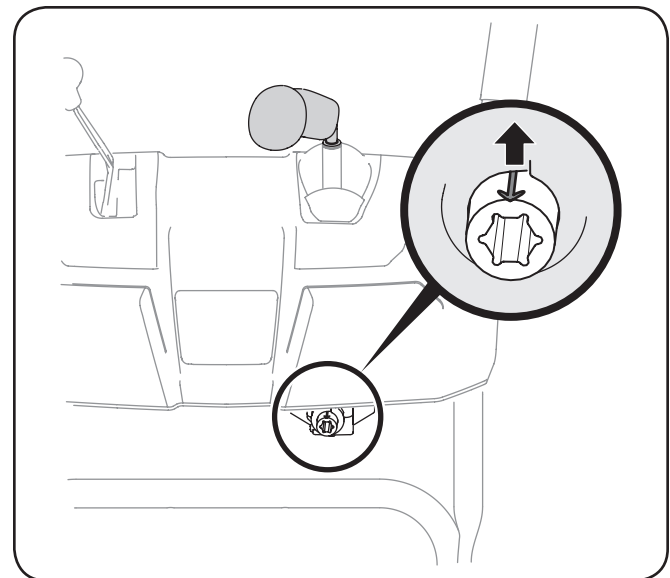

Fig. 3-7
5. Rotate the joystick to 1 o'clock position so the silver arrow on the pinion gear faces upward. See Fig. 3-7).